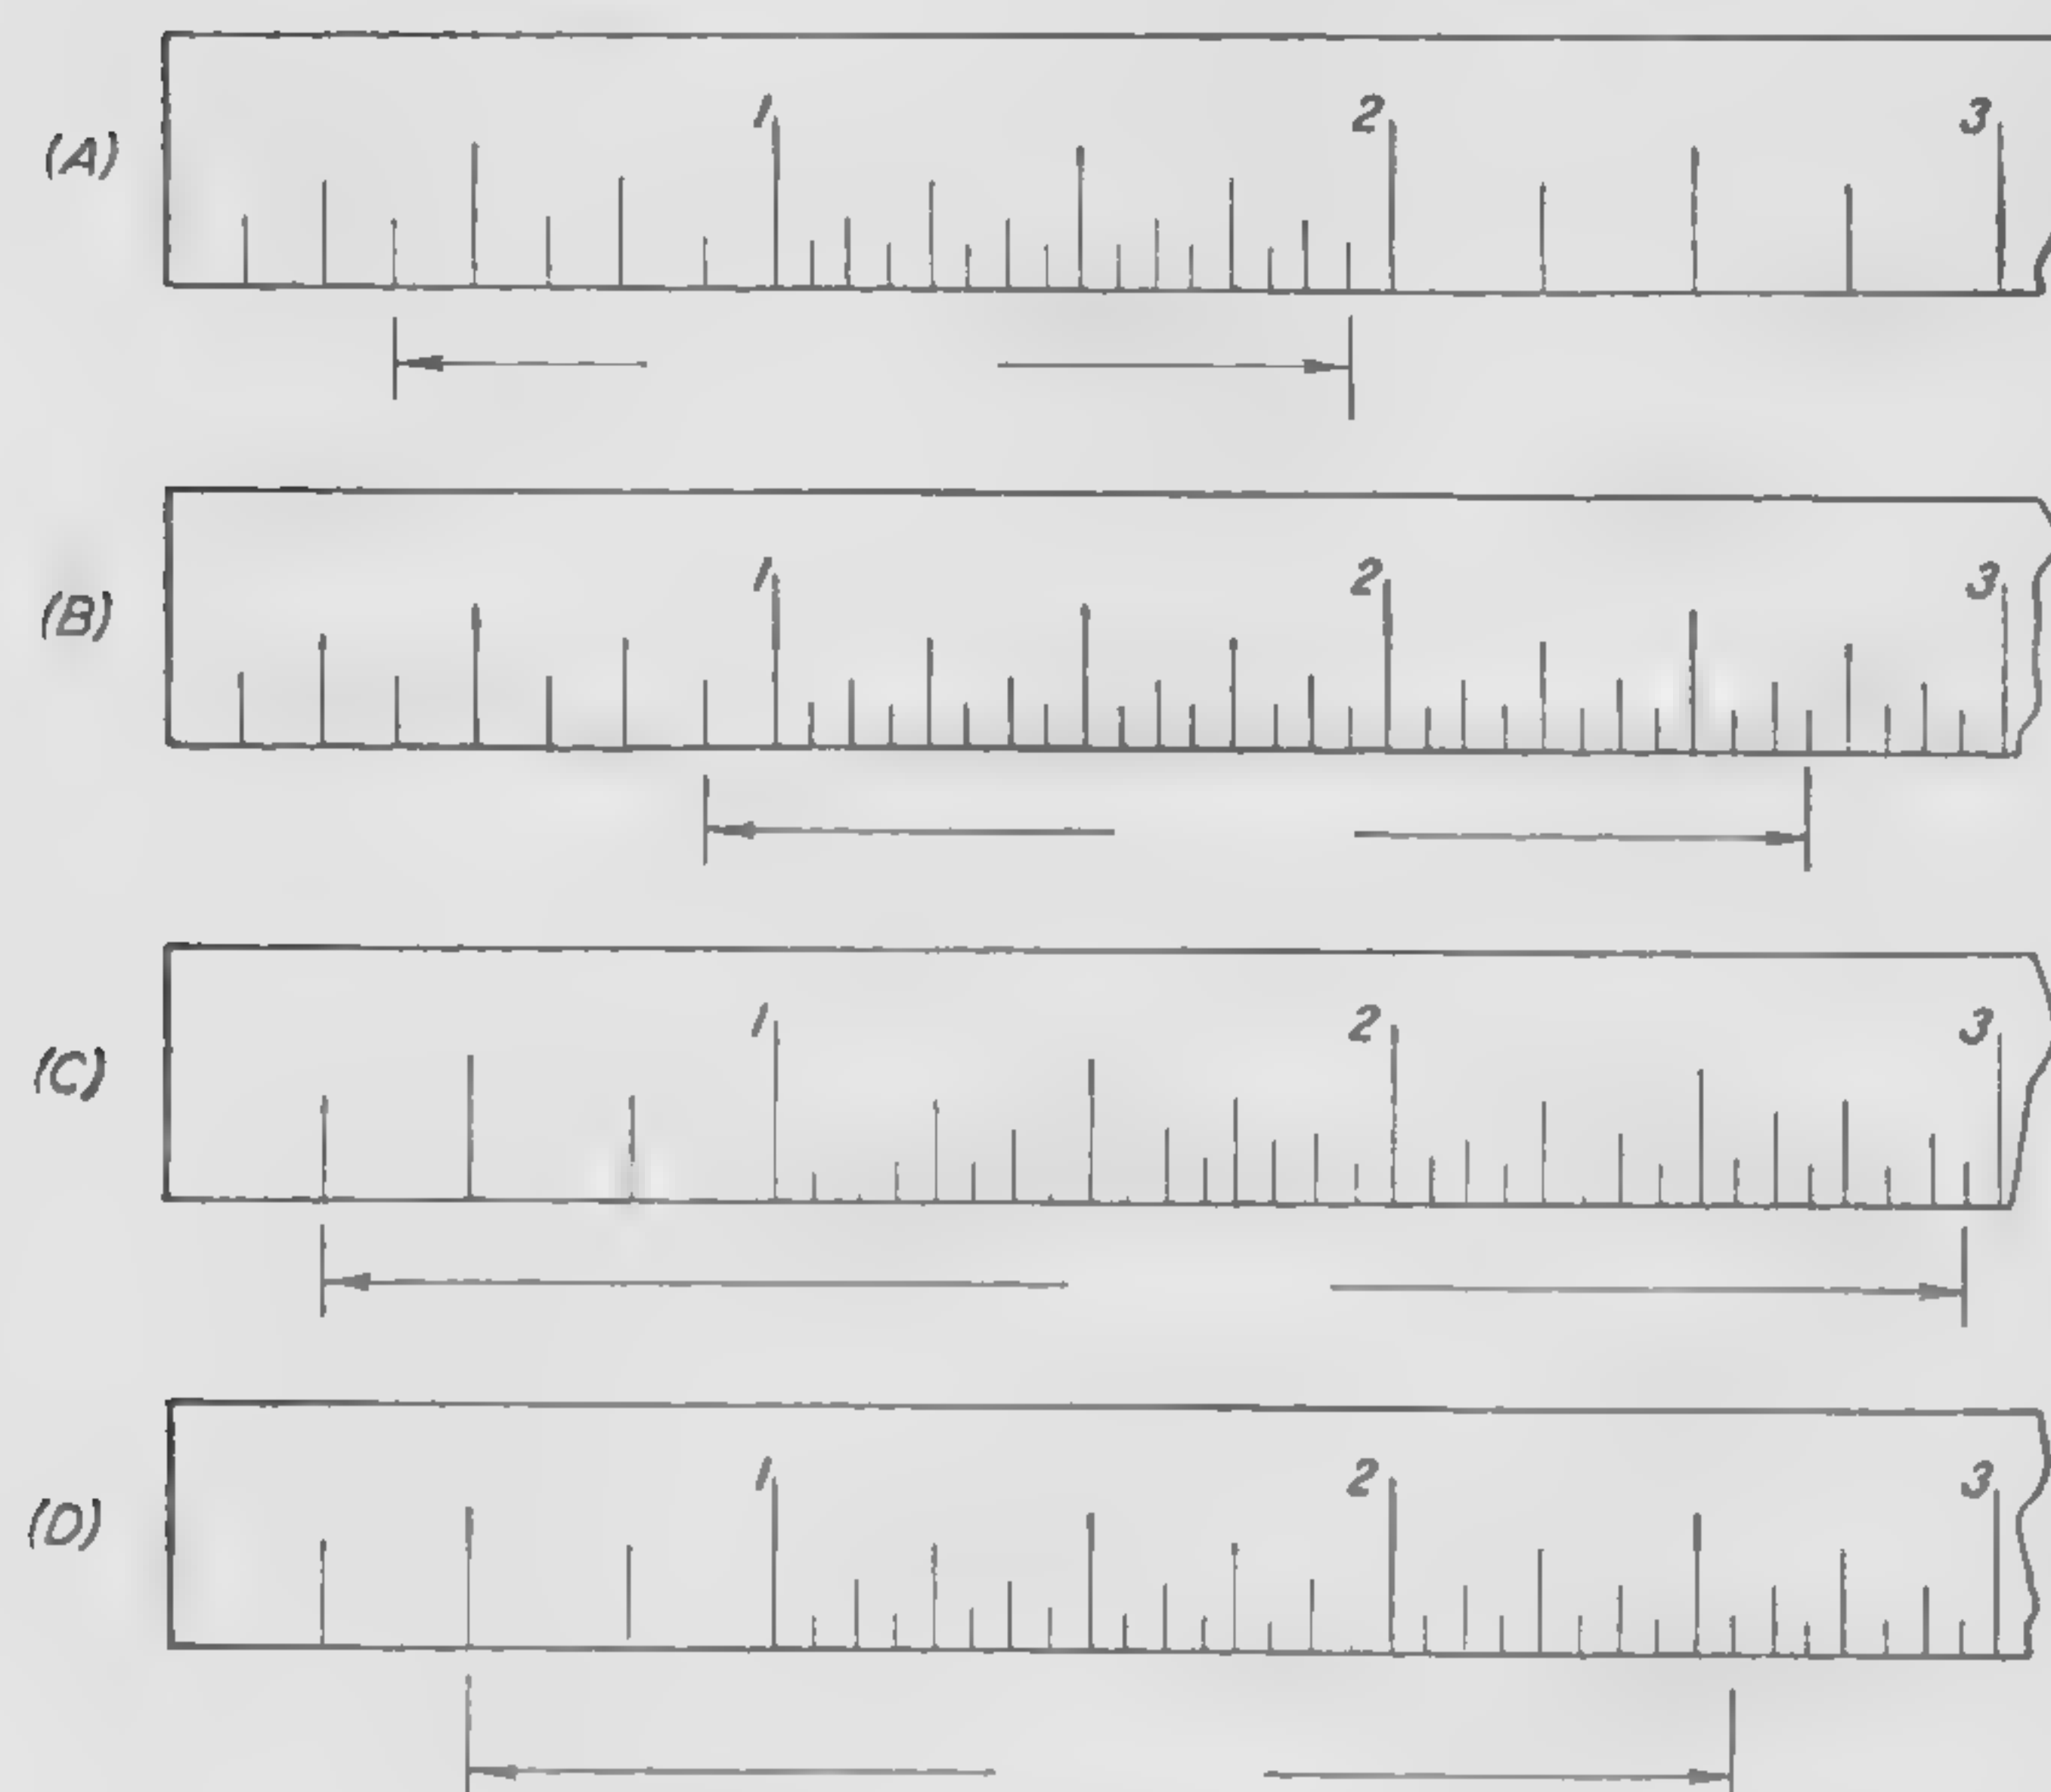

Fig. 9. Problems in Reading the Mechanic's Scale
1. Read the measurements between the arrows in Fig. 9 at (A), (B), (C) and (D).